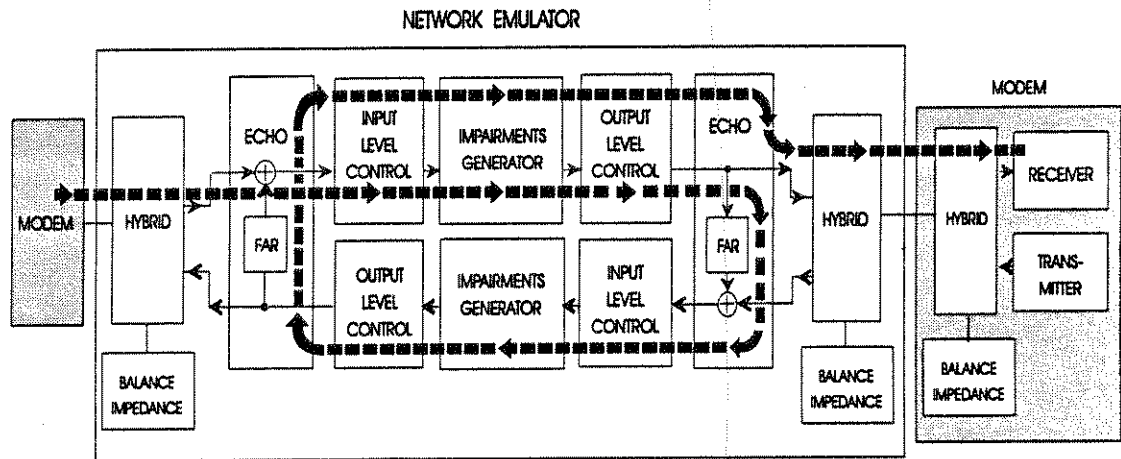

Figure 3-10. EIA/CCITT Listener Echo
The TAS 100 Series provides listener echo simulation for station A and station B. Station B (A) listener echo is the reflection of the modem B (A) receive signal. The simulation method used by the TAS 100 Series is the same as that specified in modem testing standards issued by the Electronic (Telecommunications) Industries Association (EIA/TIA) and CCITT. The simulation technique is illustrated in Figure 3-10, where the level of listener echo is controlled by the combination of the station A far echo attenuation and the station B far echo attenuation. The time delay of listener echo is determined by the satellite delay in the A→B and B→A directions.